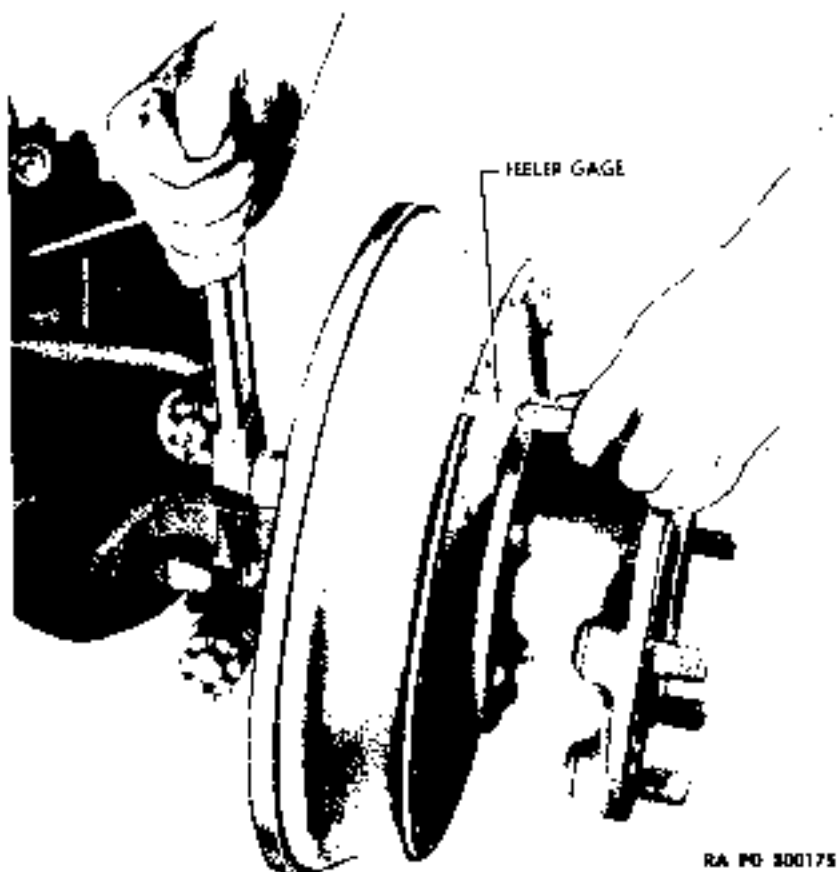

Figure 85—Adjusting Front Brake Cam
a. **Minor Adjustment Procedure.** Minor adjustment is required after normal wear occurs on brake linings, and pedal travel becomes excessive. Minor adjustments consist of turning eccentric cams near top of each brake backing plate (fig. 85). Adjustment procedure is same for all four wheels. Jack up wheel and check wheel bearing